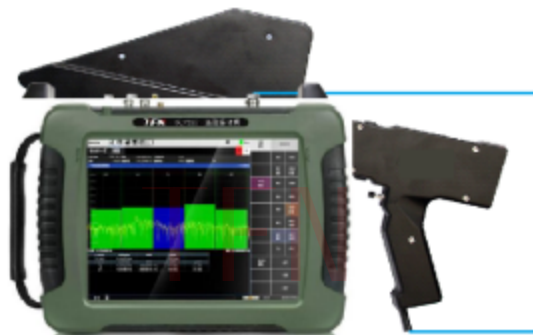

Figure 7.11 Connecting diagram of handheld DF antenna and RMT series spectrometer
- Step 1. Connect the handheld DF antenna to the RMT series spectrometer RF input port for the test connection as shown in Figure 7.11: